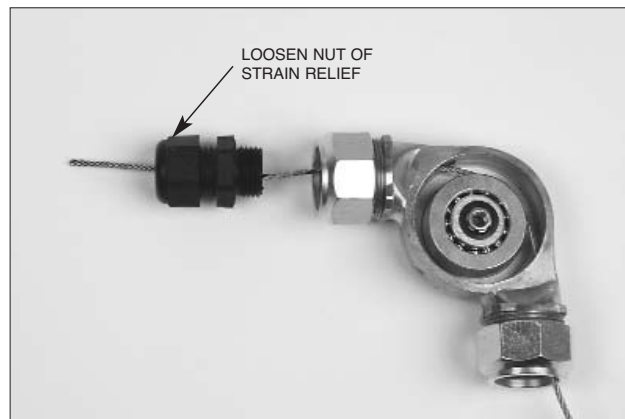

FIGURE 59
4. Loosen the nut on the strain relief and thread the wire rope through the strain relief. See Figure 59.